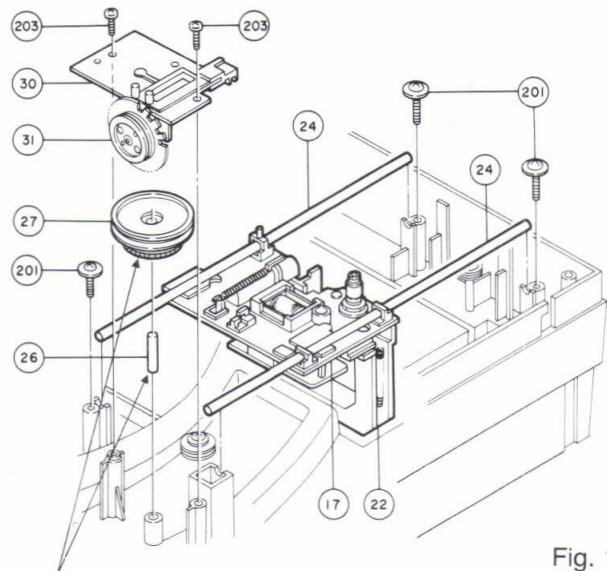

Fig. 16
8. Stick the Sheet (23) on the Sensor PWB Ass'y (39).
9. Connect the long Tonearm lead wires (red and gray) and the Sensor PWB Ass'y lead wires to the Control PWB Ass'y (37).
(B) Installation of Bracket Ass'y (17) (Figure 16)
1. Insert the Tonearm (22) into the cut out portion of the Cabinet (1), then place the two Rails (24) through the Bracket Ass'y (17) and secure them with three Screws (201).
2. Insert the Sahft (26) into the Cabinet (1) and install the Worm Wheel Gear (27).